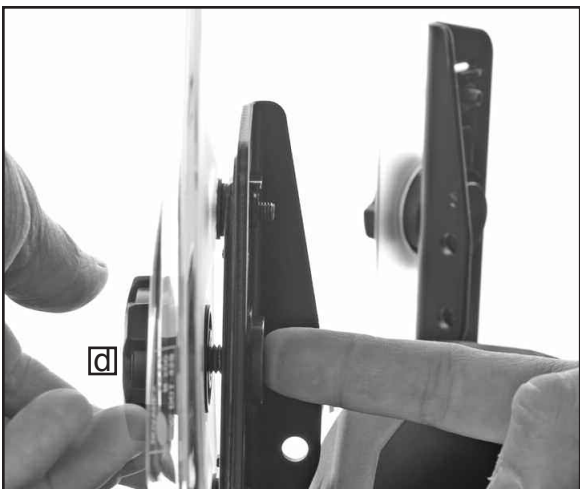

Figure 2
3. Remove the stock Adjustment Knob (d) from front of stock Windscreen. Removal of Knob will release parts (e, f, and g). Repeat on opposite side. **Figures 2 and 3**